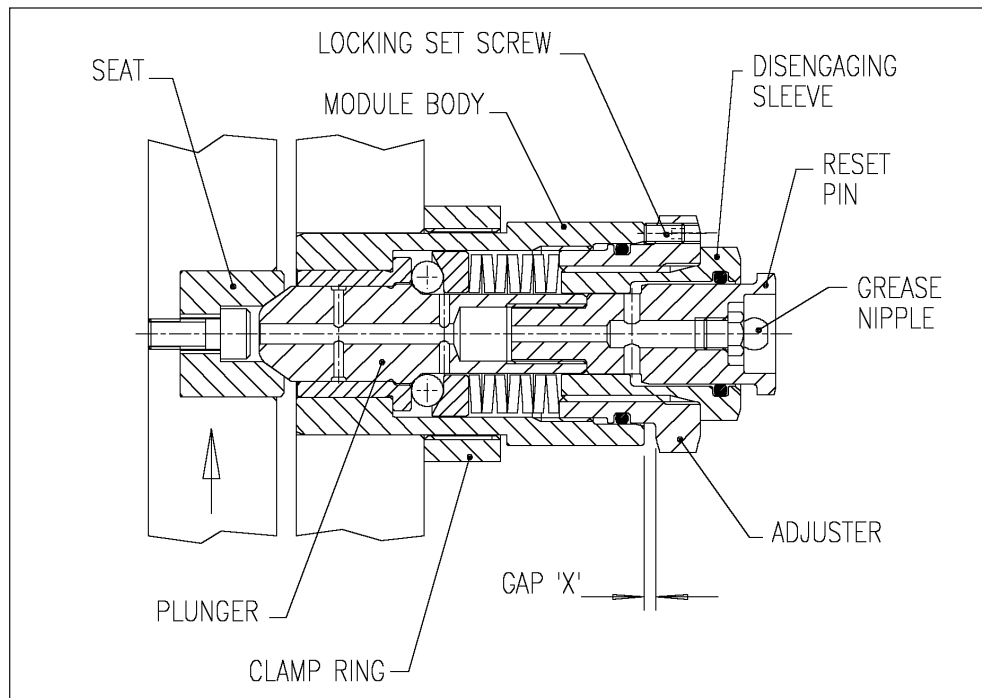

Figure 2 — Typical Module Sub-assembly
- 3.1.8. On manual reset versions ensure there is sufficient clearance at the end of the modules to allow the use of a mallet to strike the reset pin (see fig. 2). Also note the reset pins extend on trip by the dimensions shown in table 2. Check for adequate clearance in the tripped condition.
- 3.1.10. On all versions ensure that access to the grease nipples in the end of the modules is possible (see fig. 2).
- 4.2. The trip torque can be adjusted by turning the adjuster (see fig. 2), clockwise to increase torque and vice versa. If the required trip torque is known then the gap 'X' can be obtained from the calibration curve supplied with the unit. Alternatively the setting can be determined on site, starting with a low setting, and progressively increasing it until the unit starts and runs without tripping under normal load. In some applications it may be more convenient to reverse this, starting with a high setting and progressively reducing it until tripping occurs on start-up or running, then increasing it until the unit starts and runs without tripping.
To manually disengage the torque limiter rotate the disengaging sleeve (smaller of the two hexagons – see fig. 2) on each module in a **clockwise** direction through several turns until it reaches its stop (note this is a left-hand thread).
- 9.4. Ensure that the manual disengage sleeve (see fig. 2) is tightened (left hand thread) against the adjuster. If the modules are not pre-set for a specific torque, it is important to ensure that there is some preload in the module. To achieve this, back off the adjuster locking set screws, then turn the adjuster clockwise until resistance is felt, plus one further turn.